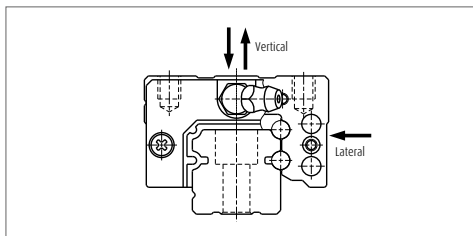

Fig. 3.4 Radial rigidity
- 1) Radial rigidity: Rigidity of vertical and lateral directions, up/down and right/left (**Fig. 3.4**).